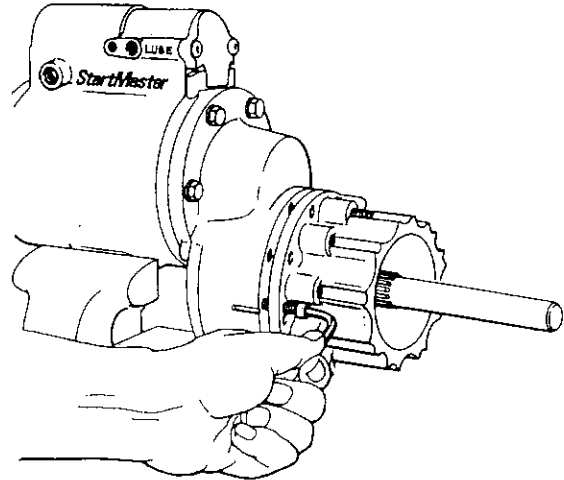

Figure 5.7
13. Remove the nine drive housing screws (26) and lockwashers (25).
14. Using two drive housing screws inserted into the threaded jacking holes in the drive housing flange, jack the drive housing from the gear case. See Figure 5.7.